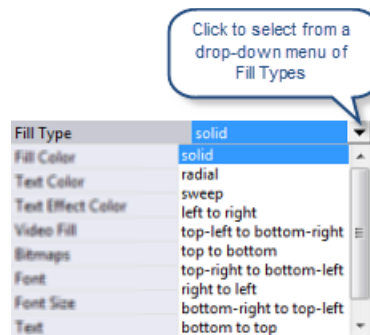

FIG. 352 Border Name (State) Property - Fill Type drop-down menu
2. In the *States* tab of the Properties window, click on the **Fill Type** field. Click the down arrow to open a drop-down menu of available Fill Types (FIG. 352):